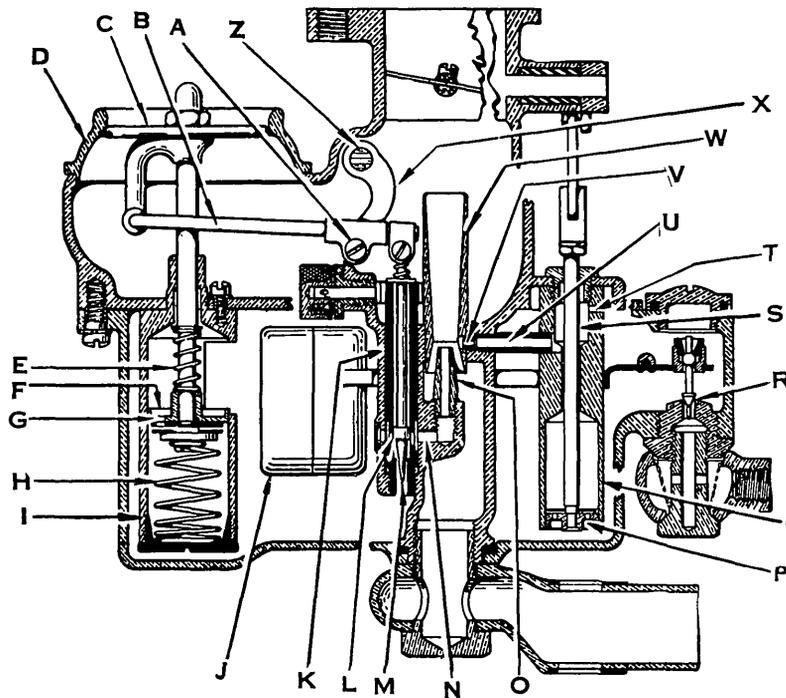
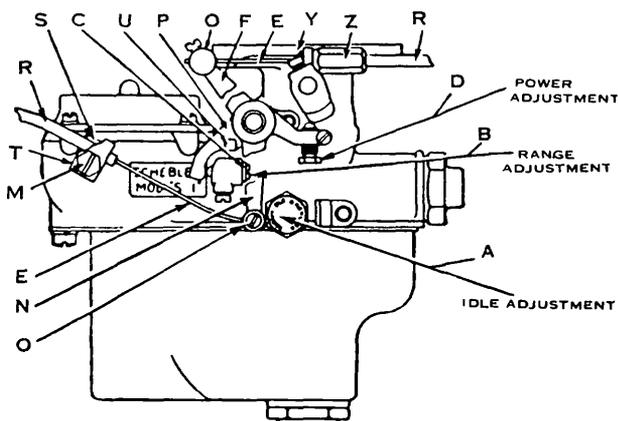

Fig. 1
Fig. 5
**Action at Low Speeds.**—The Model S is an air valve carburetor having two air inlets. The fixed air opening is through the venturi (W) Fig. 1 and is very small, furnishing barely enough air to enable an engine to idle slowly. Due to the small opening through the venturi, the velocity of the air passing through it is very high, even when the engine is idling. This enables it to pick up gasoline at the nozzle (O) and atomize it thoroughly. Due to the venturi, the suction on the gasoline at the nozzle is quite strong, making it possible to control the mixture very accurately and to get positive and reliable action at low speeds.
**Capacity at High Speeds.**—The auxiliary air valve (C) Fig. 1 is closed for idling and wide open for full power. It is very large, making it possible to handle tremendous amounts of air at the smallest suction. This ability to handle either very large or very small air flows is what is referred to in the term "long range carburetor."
**Gasoline Passageway.**—The gasoline enters the float chamber through the valve (R) Fig. 1 and the level is governed by the float (J). After leaving the float chamber, the gasoline is governed by the gasoline needle (M) at the point (L). It then passes through the cross drill (N) into the nozzle (O) and on into the air stream through the venturi (W).
**How the Mixture Ratio is Maintained.**—The method of maintaining the correct fuel-to-air ratio is as follows: The motion of the air valve is transmitted to the needle valve lift lever (B) Fig. 1 which rotates about the fulcrum point (A), giving to the gasoline needle (M) a definite part of the air valve motion. Thus, the flow of gasoline will tend to vary in direct proportion to the air, no matter how much or how little air is being used.
The Model S carburetor is designed to give maximum power and maximum economy at the same adjustment. This may seem impossible at first but it is accomplished as follows: A very lean mixture is required to give the most miles per gallon while considerably more gasoline is needed for full power. When driving at medium speed or on a smooth road, comparatively little power is needed and economy and smooth performance are the important requirements. Under these conditions, the throttle will be only part way open and the fulcrum point (A) will be in the position corresponding to maximum economy. When full power is desired the throttle is opened wide. This will cause the cam, Fig. 5, to depress the cam tappet screw (D), thus moving the fulcrum point (A) Fig. 1 over toward the air valve, and lifting the gasoline needle (M). This will make the mixture a certain per cent richer just enough to change over from full economy to full power. These adjustments can be independently made on any engine so that they can both be exactly right. The carburetor can therefore be adjusted so as to give
(T) Fig. 1 is placed at the required height so that any excess gasoline pumped into (S) will run back into the float chamber and will not be wasted. While necessarily large, the pump is therefore not wasteful.
The amount of gasoline required for acceleration varies with the size, shape and temperature of the intake manifold. The Model S pump can be adjusted to any manifold. The rate of delivering the extra gasoline can be changed according to the size of the metering hole (V) Fig. 1 and the total amount delivered according to the height of the overflow (T). The amount of extra gasoline used in acceleration is quite small but it makes the difference between positive action on the one hand and an uncertain and delayed response to the throttle on the other.
**The Dash Pot.**—The gasoline dash pot (I) Fig. 1 is used to prevent the fluttering of the air valve (C) when the engine is pulling hard at a low speed. Under these conditions, the fluctuations of pressure are slow but are of small magnitude so that the spring (E) is strong enough to hold the valve (F) firmly in place and prevent any fluttering. Suppose, however, that the car is driven at a high speed, the throttle closed for a moment and then suddenly opened again; an immediate response will be desired from the engine. Under these conditions, a heavy vacuum will be established in the manifold during the coasting which will be transferred to the air valve when the throttle is open. Under this heavy force, the spring (E) will collapse and the air valve will drop as though the dash pot were not there; allowing the engine to respond with a full thrust from the very first. The little valve (G) is provided to allow the air valve to close rapidly.
**Dash Control for Starting.**—The Model S has no choke. It delivers to the engine whatever air is needed and meters the required fuel into that air. When a very rich mixture is needed as in starting a cold engine, the dash control lever (F) Fig. 5 is pulled down by means of the wire (E). This will rotate the fulcrum lever (X) Fig. 1 about the shaft (Z) toward the air valve (C) and give the gasoline needle an initial lift from an increased percent of the motion of the air valve. The velocity of the air through the venturi (W) is ample to pick up and atomize whatever gasoline may pass through the nozzle (O), so that a mixture many times as great as normal may be effectively supplied to the manifold of the engine; and starting be made correspondingly easy. As the engine speeds up, the effect of the initial life of the needle will diminish so that the percent of excess gasoline will decrease but not disappear at high speeds. This corresponds to the requirements of an engine as a greater percent of excess gasoline is required to run a cold engine slowly than fast.
**Accelerating Pump.**—When the throttle is opened suddenly, a certain portion of the gasoline will lag behind the air. This will cause the mixture reaching the cylinders to be temporarily leaner than the accurately metered mixture leaving the carburetor. If the carburetor is adjusted lean for economy, this temporary impoverishment of the mixture would cause the engine to misfire were it not for the accelerating pump (Q) Fig. 1 which causes the mixture leaving the carburetor to be temporarily enriched during acceleration.
When the throttle is opened, the piston (P) Fig. 1 of the accelerating pump is raised lifting gasoline into the upper chamber (S). From here, the gasoline flows through the passageway (U) to the venturi (W) where it mixes with the air entering the carburetor. No gasoline at all will pass through (U) except immediately following an opening of the throttle; so that the accelerating pump acts only during periods of acceleration.
The capacity of the pump is large compared to the amount of gasoline used for acceleration. This is for a definite reason. When the throttle is opened, just a few degrees from the idling position at low speed, the engine will be running under full load and a full load charge of accelerating gasoline will be needed. The accelerating pump must therefore be able to deliver the full load charge of gasoline with just a few degrees of motion. On the other hand, no greater charge than this is needed when the throttle is opened wide. For this reason, an overflow passage (V), Fig. 1, is provided near the top of the pump cylinder to permit the excess gasoline to return to the carburetor bowl.
**Idle Adjustment.**—Turn the idle adjusting knurl (A) Fig.5 to the right for a lean mixture and to the left for a rich mixture. To check the idle adjustment, warm up the motor thoroughly and by this we mean to have a hot motor. Then close the throttle, retard the spark all the way if car has manual spark control and then adjust idle stop screw so that motor will not idle less than five miles per hour on the road. After you have made the proper idle adjustment so that the motor runs at the correct speed, then proceed to check the idle adjustment as follows: Turn the idle adjusting screw (A) Fig. 5 to the right (clockwise) turning slowly, watching the motor fan at the same time and con-